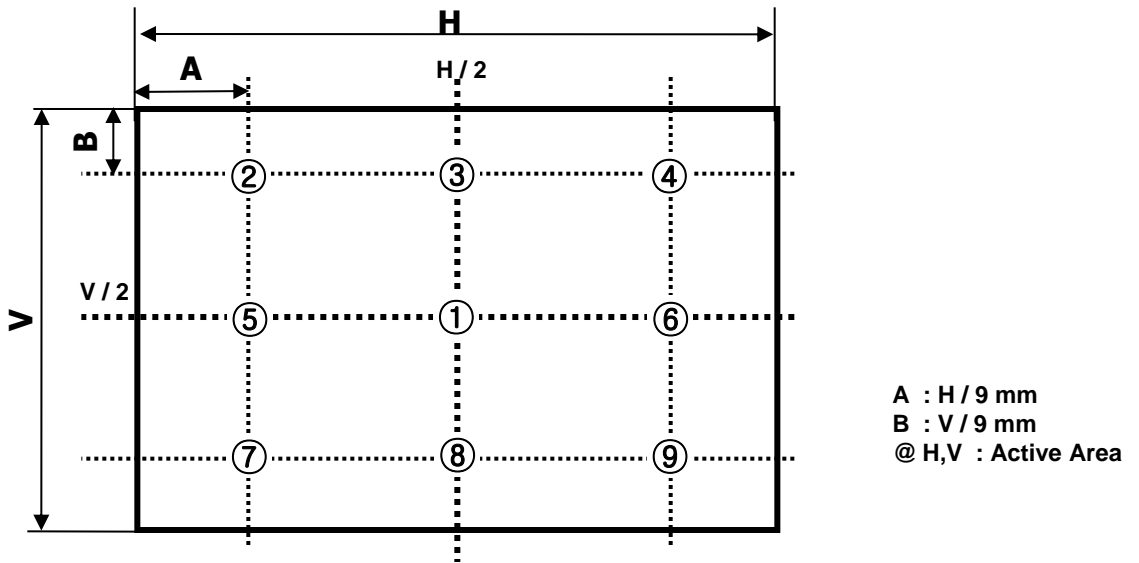

FIG. 2 9 Points for Luminance Measure
2. Surface luminance is determined after the unit has been 'ON' and 1 Hour after lighting the backlight in a dark environment at $25 \pm 2^\circ\text{C}$. Surface luminance is the luminance value at center 1-point across the LCD surface 50cm from the surface with all pixels displaying white. For more information see the FIG. 2.
For more information, see the FIG. 2.